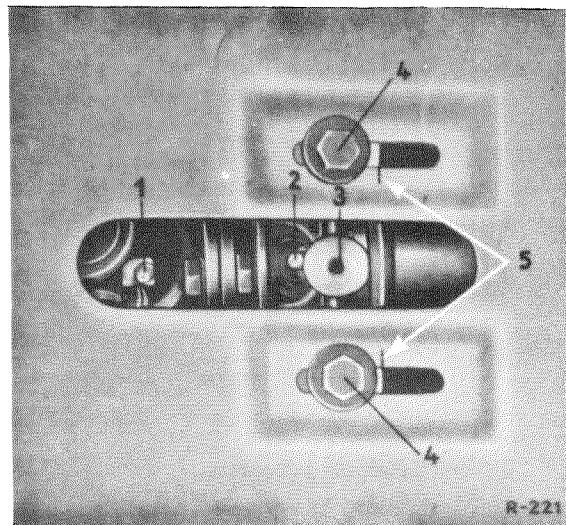

Fig. 26 — 1/3
4. Detach the cover plate for the propeller shaft intermediate bearing. Mark the position of the bearing bracket on the chassis base panel (5) and remove the two fixing screws (4) for the bearing bracket (Fig. 26 — 1/3).